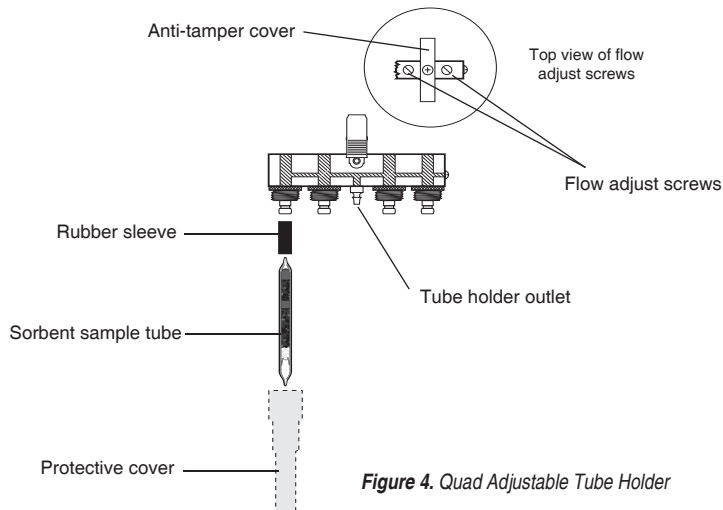

Figure 4. Quad Adjustable Tube Holder
Using Multiple-tube Adjustable Low Flow Tube Holder (Figure 4)
4. Connect the tube holder (Figure 4) to the pump inlet (Figure 1) using the attached 1/4-inch Tygon tubing. See right.
5. Insert an opened sorbent tube into each rubber sleeve of the tube holder (Figure 4). Ensure that the arrow on each tube points toward the tube holder.
7. Using flexible tubing, connect the exposed end of the first sorbent tube to the calibrator outlet (suction port). Loosen and turn the brass flow adjust screw (*Figure 4*) on the port of the appropriate tube holder (**counterclockwise to increase, clockwise to decrease**) until the desired flow rate is achieved. **Note:** For tri and quad models, first rotate each anti-tamper cover (*Figures 4 and 5*) to expose the flow adjust screws, then adjust the appropriate one until the calibrator indicates the desired flow.